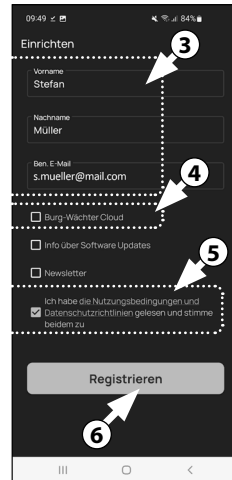

Fig. 3
- 4 Select them the item: "*BURG-WÄCHTER Cloud*" this is not required for the setup and can therefore be ignored for the time being ( Fig. 3). An explanatory note on this subject can be found in the master operating instructions on our website (see link on the title page).
- 5 Read through and agree to the terms of use and privacy policy (Fig. 3).
- 6 Tap on "Register" (Fig. 3).